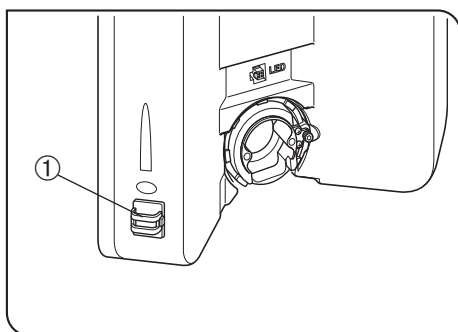

Fig. 36
2 Attaching the Halogen Lamp Socket (Figs. 36 to 38)
Installing the U-LS30ADP LS30 Adapter (Fig. 36)
4. Pass the lamp cable through the cable holder ① (Fig. 36).